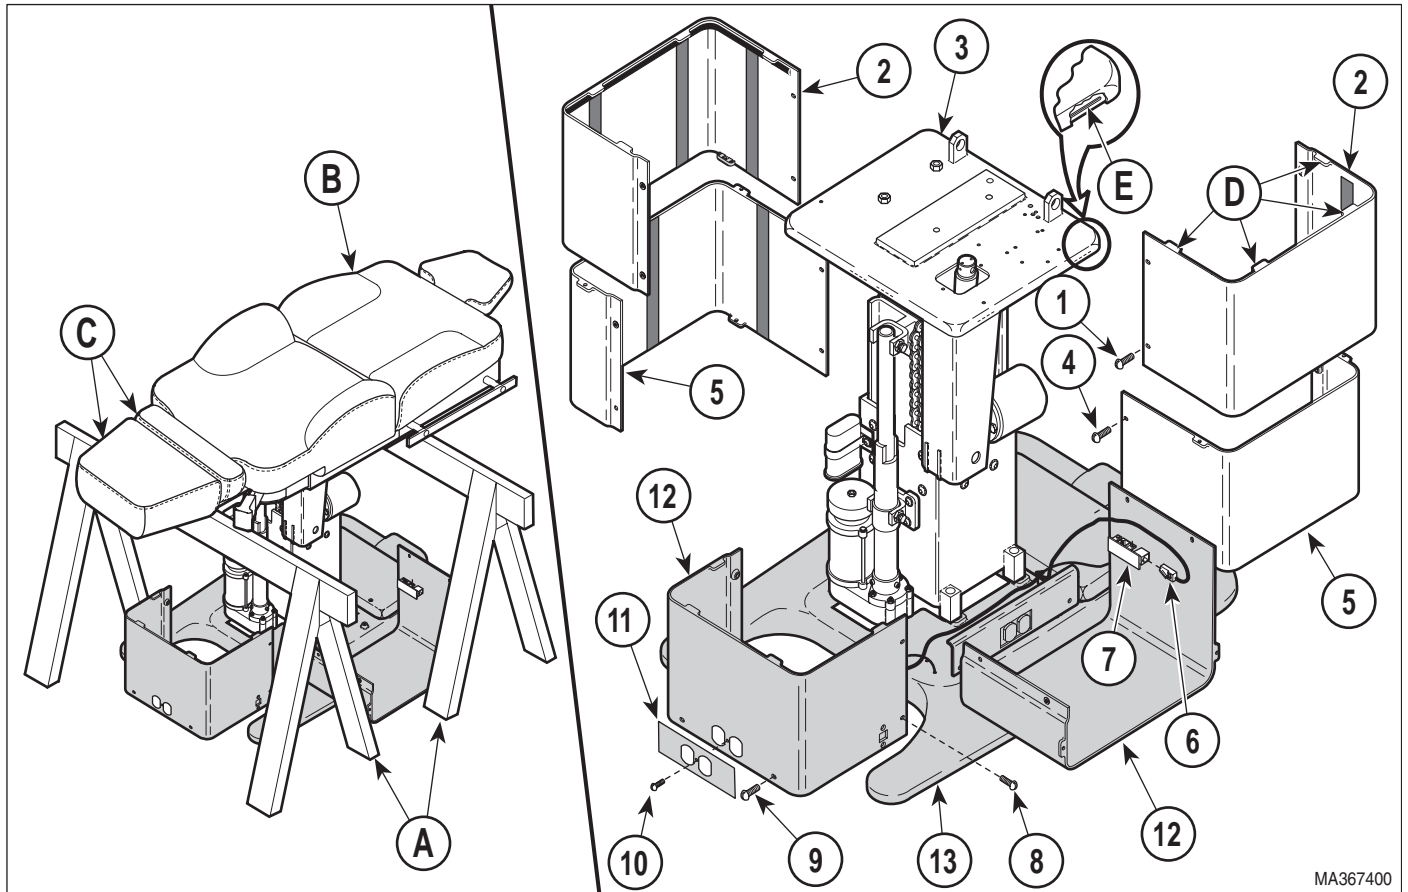
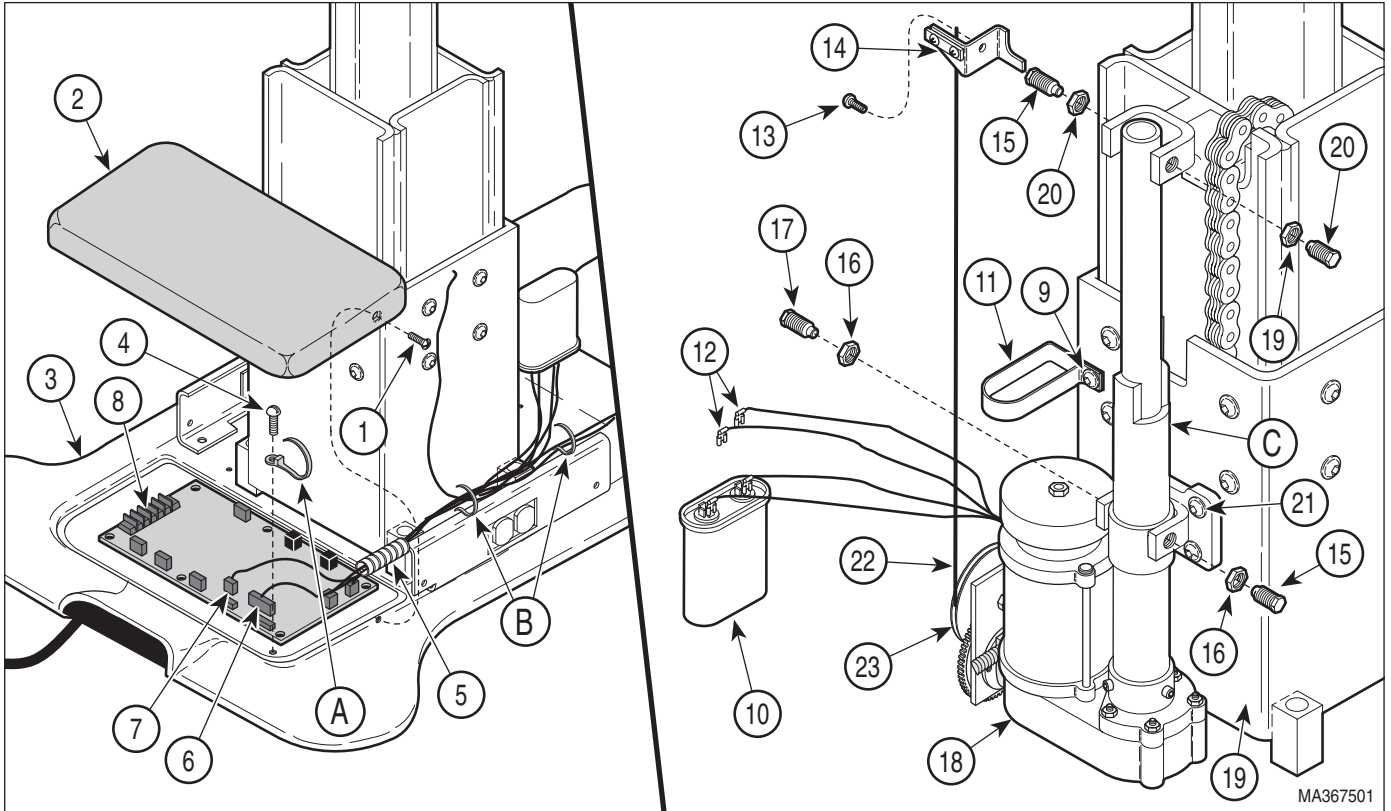

Figure 4-17. Base Shrouds Removal / Installation
Figure 4-18. Base Actuator Removal / Installation
- (3) Unplug table power cord from outlet receptacle.
- (4) Remove four screws (1, Figure 4-17) and R.H. and L.H. outer shrouds (2) from column adapter weldment (3).
- (5) Remove four screws (4) and R.H. and L.H. middle shrouds (5).
- (6) Disconnect one modular cord (6) from each inlet PC board (7).
- (7) Remove four screws (8), four screws (9), two screws (10), two receptacle label plates (11), and partially remove R.H. and L.H. inner shrouds (12) from base casting (13).
- (8) Place supports (A) under back section (B) and foot section (C).
- (9) Remove two screws (1, Figure 4-18) and PC board cover (2) from base casting (3).
- (10) Remove screw (4) and cable strap (A) from base casting (3). Cut cable strap.
- (11) Cut all cable ties (B) securing base actuator wires to other wires.
- (12) Remove plastic wrapping (5) from around wires.
- (13) Disconnect base wire harness (6) and brake wire harness (7) from PC control board (8).
- (14) Loosen screw (9).
- (15) Push base capacitor (10) out of capacitor strap (11).
(1) Remove jam nuts (16 and 20, Figure 4-18) from pivot screws (15 and 17).
- (7) Install plastic wrapping (5) around base actuator wires.
- (8) Connect brake wire harness (7) and base wire harness (6) to PC control board (8).
- (9) Connect two actuator wires (12) to terminals of base capacitor (10).
- (10) Slide base capacitor (10) into capacitor strap (11) and secure by tightening screw (9).
- (11) Secure wires together with cable strap (A). Secure cable strap to base casting (3) with screw (4).
- (12) Secure wires together as a bundle with two or more cable ties (B).
- (13) Install PC board cover (2) on base casting (3) and secure with two screws (1).
- (14) Plug one modular cord (6, Figure 4-17) into each inlet PC board (7).
- (15) Plug table power cord into outlet receptacle.
- (16) Run TABLE UP and / or TABLE DOWN function until shaft (C, Figure 4-18) of base actuator (18) is aligned with bracket of column assembly (19).
- (17) Coat threads of two pivot screws (15), which are directly in front of jam nuts (20), with permanent threadlocking adhesive (Loctite 262).
- (18) Secure shaft (C) of base actuator (18) on column assembly (19) and secure with two pivot screws (15). Tighten pivot screws to 50 to 60 in-lbs. (5.6 to 6.8 N•m).
- (19) Tighten two jam nuts (20) to 45 - 55 ft-lbs. (61 to 74.6 N•m).
- (20) Tighten three screws (21) to 17 - 20 ft-lbs (23 - 27.1 N•m).
- (21) On programmable tables, install cable bracket (14) on R.H. pivot screw (15) and secure with screw (13). Do not wrap cable (22) around pulley (23) at this time.
- (22) Run TABLE UP function until table top is off of supports (A, Figure 4-17); then remove supports from under table top.